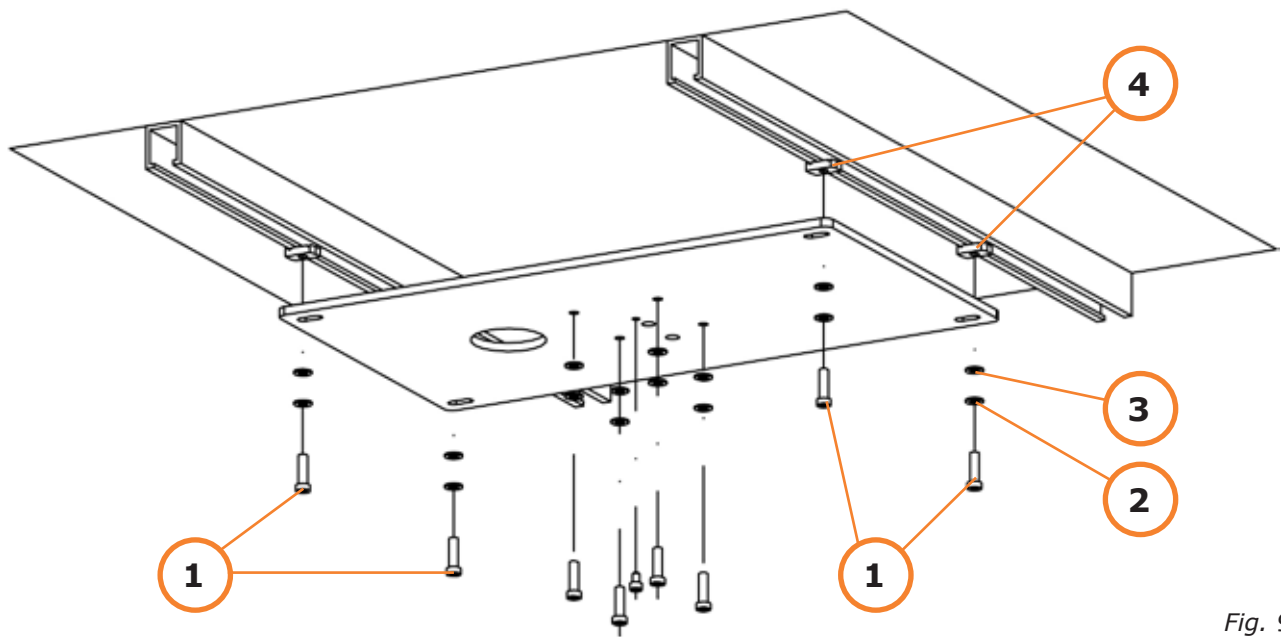

Fig. 9
- 5.1.2 Space the provided nuts (4/Fig. 9) along the Unistrut® rails in intervals of 350 mm (see shipping carton).
- 5.1.3 Install the mounting plate to the nuts along the Unistrut® rails using the M10x35 screws (1/Fig. 9), lock washers (2/Fig. 9), and washers (3/Fig. 9) and level with a block level, secure the screws finger-tight. If necessary, use shims.